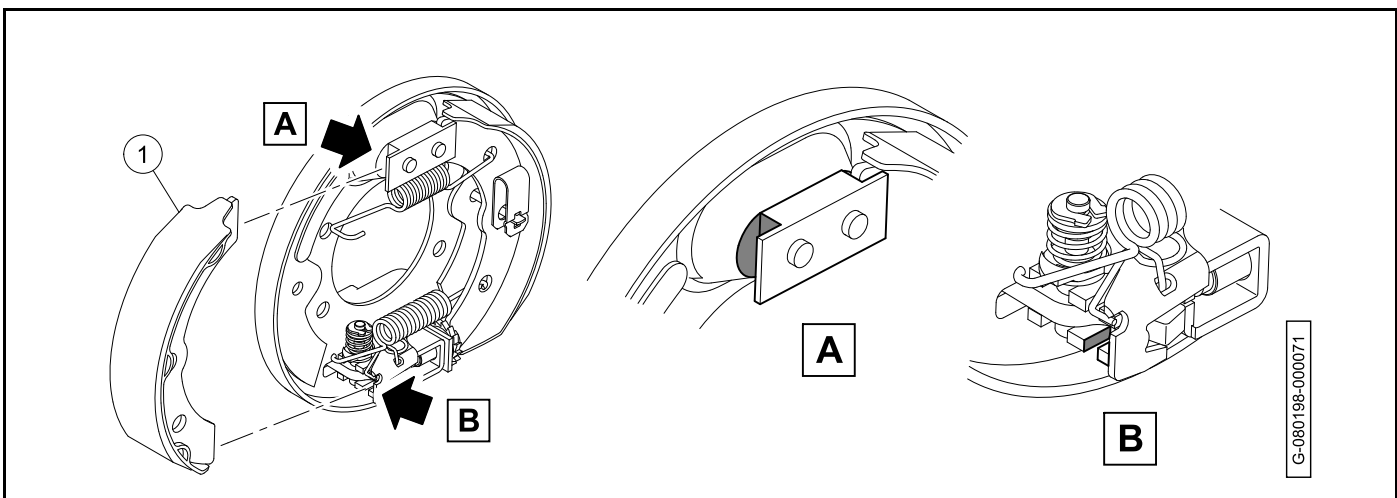

Figure 6-14
4. Use pliers to compress and install the shoe retainer clip (4), while turning the retainer pin (5) into position.
5. Attach the springs (6) onto the first shoe.
7. Install the second shoe (1) in the slots in the shoe mounting block (A) and the adjuster assembly (B) (**Figure 6-14**).